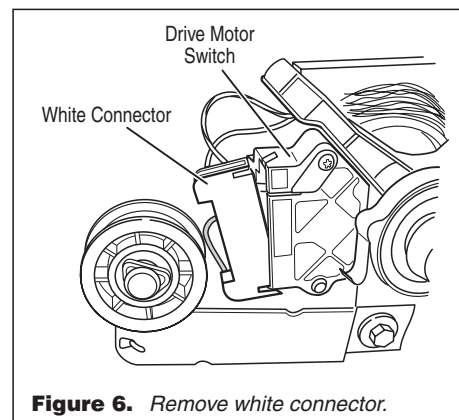

Figure 6. Remove white connector.
5. Remove the white connector from the drive motor switch. See figure 6.